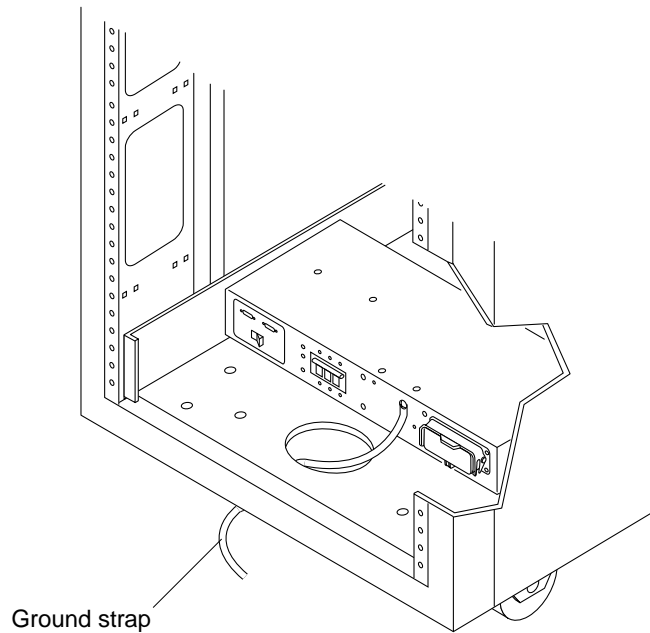

FIGURE 3-5 Connecting the Ground Strap to the Front Power Sequencer
3. Screw the other end of the ground strap the front power sequencer in the storage system (FIGURE 3-5).